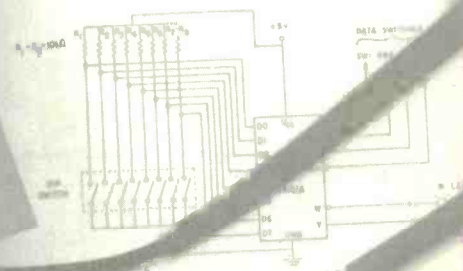
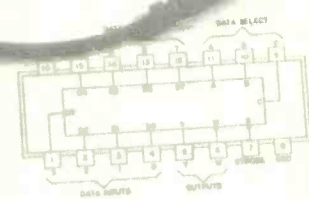

Fig. 16 Circuit for Experiment 2.
Fig. 17 Pin diagram for 74151A.
Figure 16 shows the circuit diagram for this experiment. You'll note that pin numbers for the IC aren't included on the diagram. For those, you'll have to refer to Fig. 17, which shows pertinent 74151A data. For the data inputs, you'll use an eight-pole DIP switch in conjunction with 10-k $\Omega$  pull-up resistors. For the Select and Strobe lines, finally, you'll use the trainer data switches.
2. Connect the eight 10-k $\Omega$  resistors to the DIP switch as shown in Fig. 16. Connect the opposite end of each of these resistors to the +5V supply. The second terminal of each switch is to be connected to trainer ground.
4. Next, connect the trainer data switches to the Select and Strobe lines on the IC, using Fig. 17 as a guide. Initially, set SW1 through SW4 to 0.